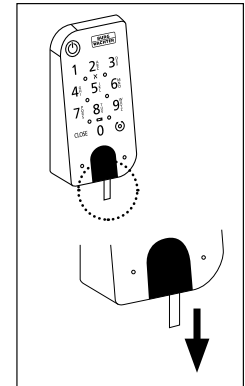

Fig. 22
⑨ First, remove the battery protection strip from the keypad (Fig. 22).